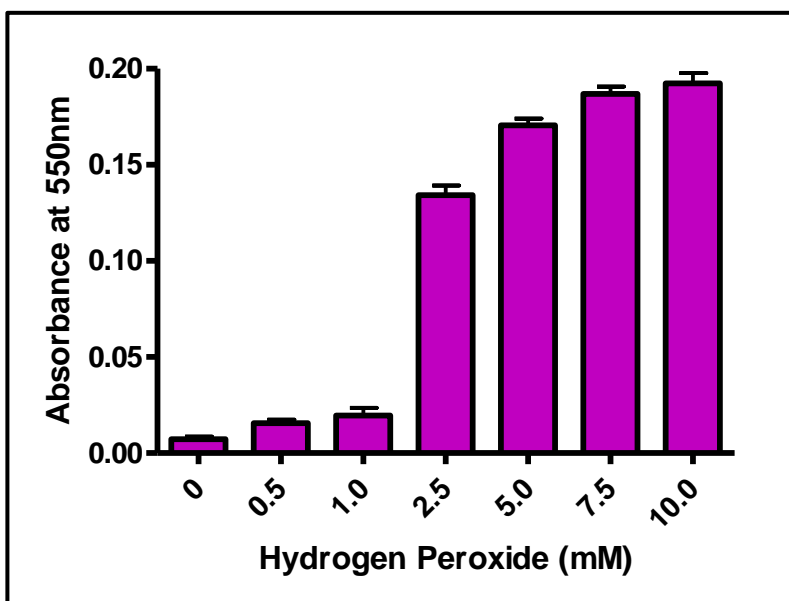

Fig. 1 Colorimetric Quantification.
3. Plot mean absorbance values \pm standard error of the mean in a bar chart (Fig. 1) or as a percentage of the Positive Control absorbance value.